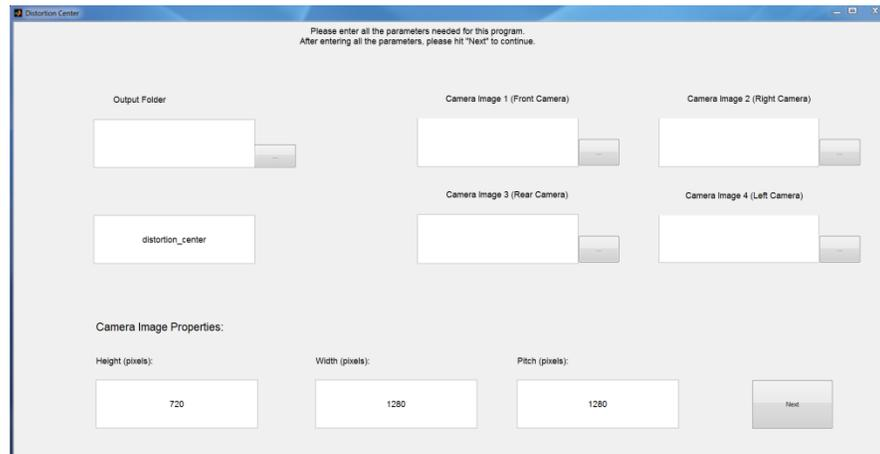

Figure 18 – Fisheye Tool starting window
1. By running "fisheye_tool.exe" in folder ./fisheye_tool/, first you will see the windows shown in Figure 18. It will ask you to select input file, output folder and output filename. Choose output folder to be the same as where the camera images are located. Also, specify the height, width and pitch of the input camera images, if they differ from the default values.